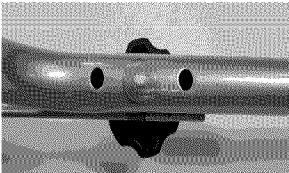

Figure 5 - Adjusting Handle
2. Adjust handle up or down to desired height (see Figure 5).